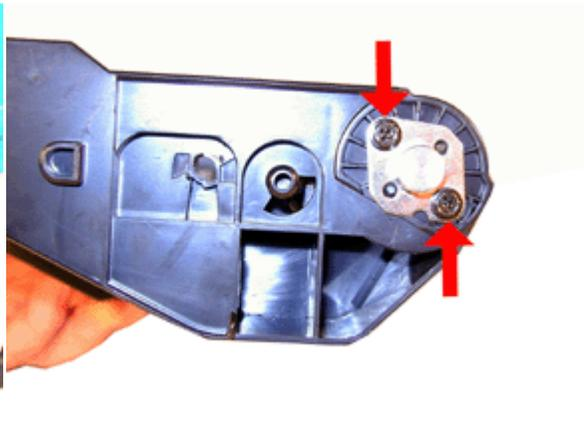

FIGURE 8
5. Remove the two screws and metal drum axle pin from the double gear side of the drum. See Figure 8